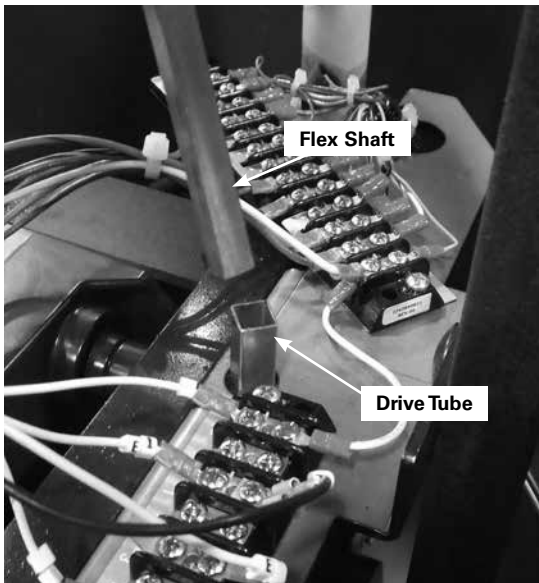

Figure 2. Internal flex shaft
1. Pull the internal position indicator flex shaft from the position-indicator drive tube. See Figure 2.